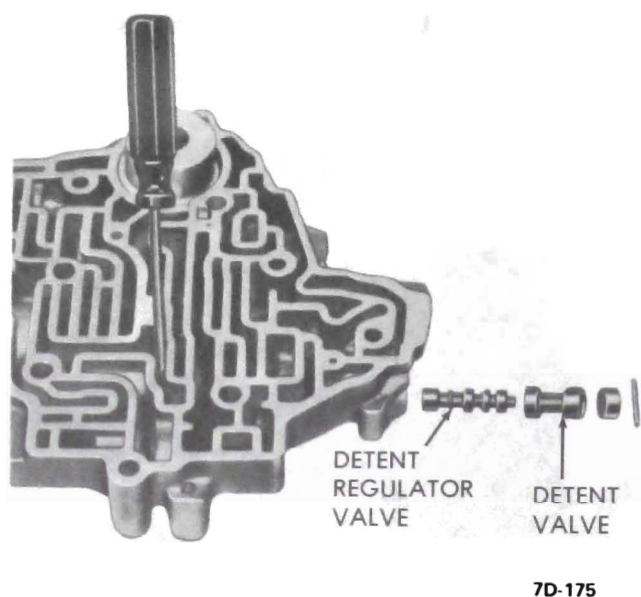

Figure 7D-112
out) and retaining pin are installed. See Figure 7D-112.
8. In the lower right hand bore, install the 3-2 valve. See Figure 7D-108.
9. Install the spacer, spring bore plug (hole out) and retaining pin. See Figure 7D-108.
10. In the next bore up, install the 2-3 valve, open end out, and 3-2 intermediate spring. See Figure 7D-108.